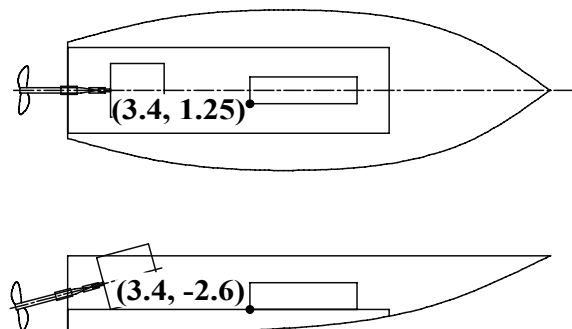

FIG. 12
Step 10. To indicate the position of the rectangle in the Top View click point **(3.4, 1.25)**, **Fig. 12**.
Step 11. To indicate the position of the rectangle in the Side View click point **(3.4, -2.6)**, **Fig. 12**.